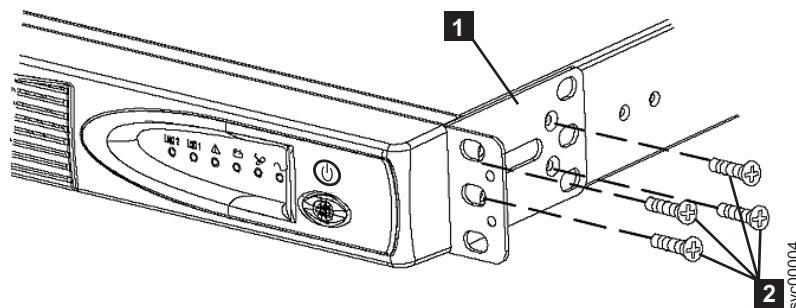

Figure 232. Installing the support rails for a 2145 UPS-1U into the rack
2. On each side of the 2145 UPS-1U, attach the long end of a mounting bracket to the 2145 UPS-1U using four of the supplied M3 × 6 screws (2 in Figure 232).